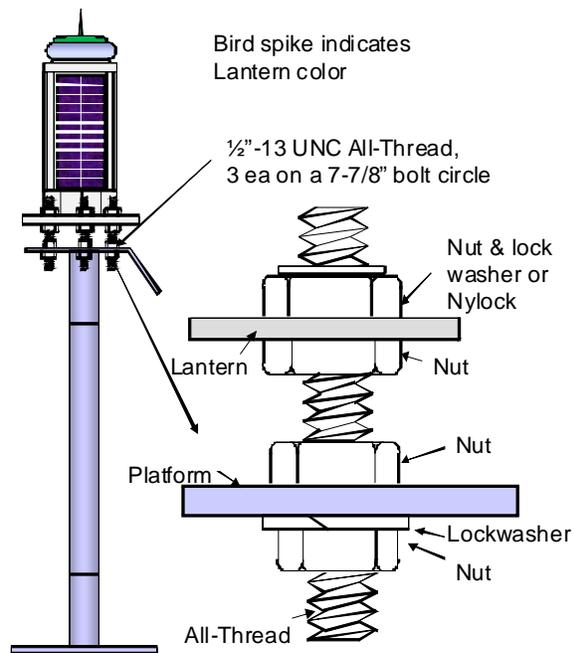

Figure 3-11
- c. On structures, install three  $\frac{1}{2}$ " stainless steel bolts (or all-thread) to the structure's mounting plate as shown in Figure 3-11. Install three jam nuts on the bolts so that about 1" of thread is exposed. Place the lantern on top of the leveling nuts, and then position the uppermost nuts at the very upper end of the thread. Do not tighten these uppermost nuts – they are positioned at this time to ensure that the lantern doesn't fall off.